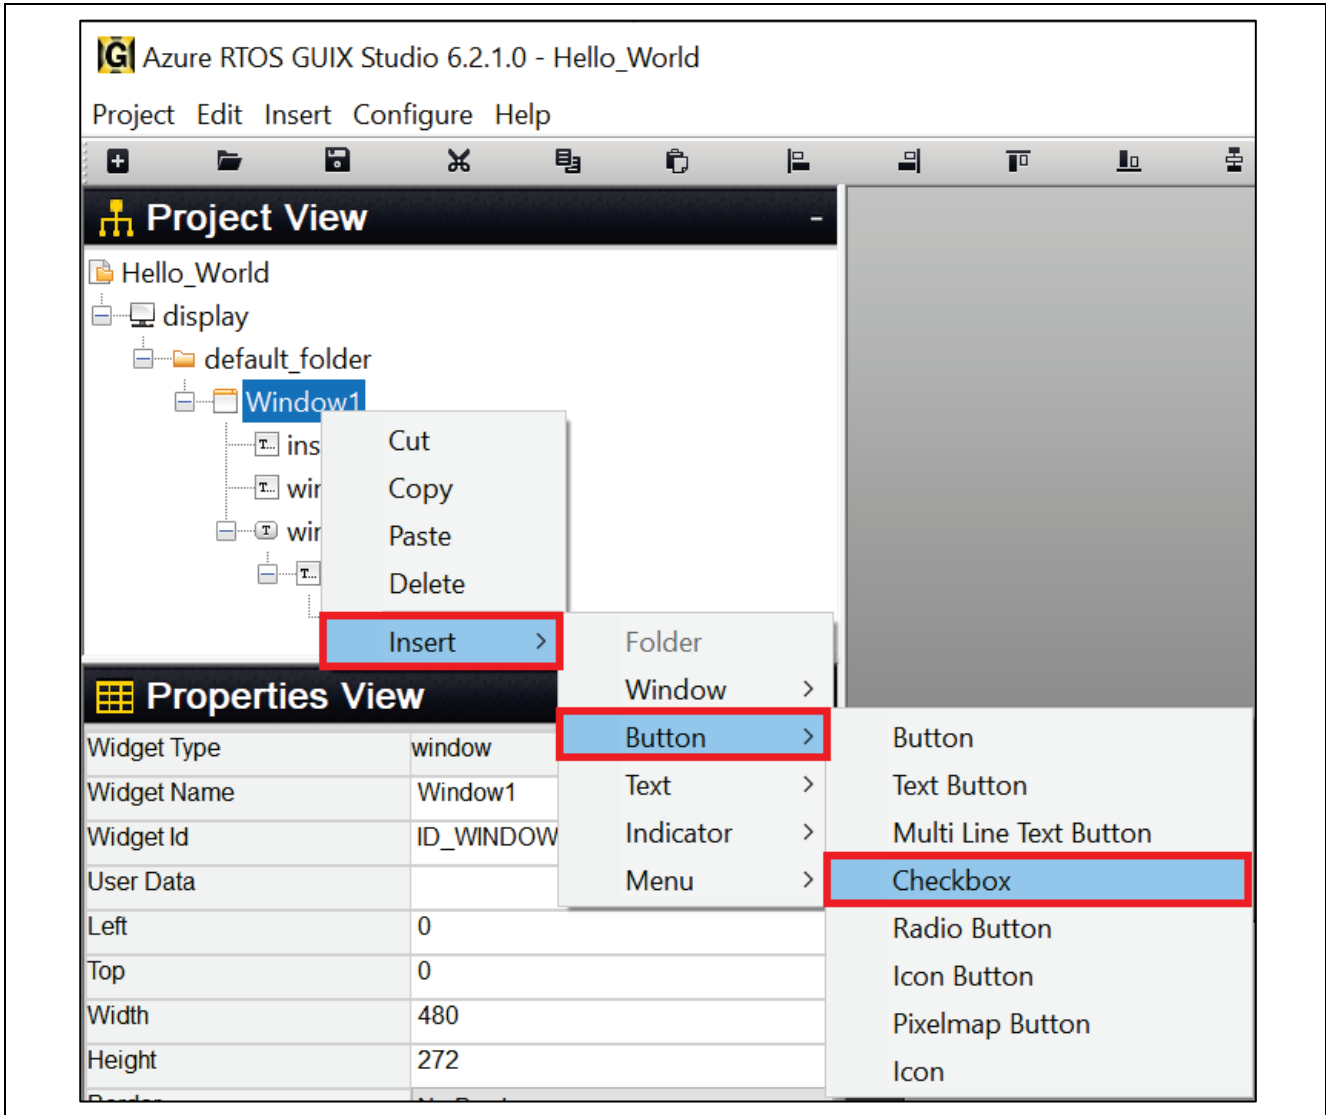

Figure 58. Insert Button Checkbox
20. Insert **button Checkbox**. Right click on **Window1** and follow Figure 58.